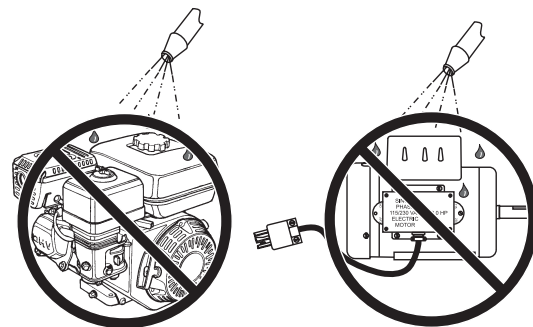

Figure 22. No Spraying of Water
**NEVER** pour or spray water (Figure 22) over the gasoline engine or electric motor.